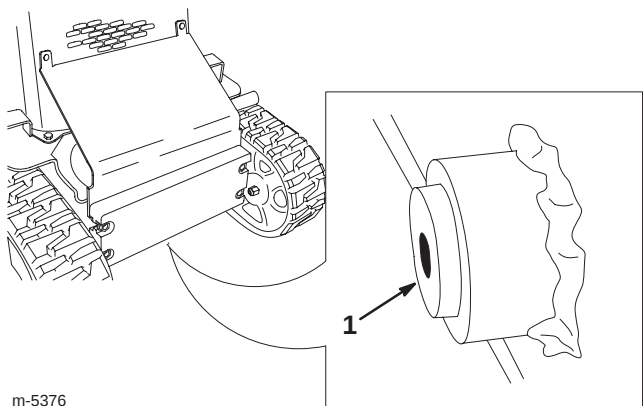

Figure 47
6. Place a large drain pan (capable of holding 15 US gallons) under the drain plug on the front of the traction unit (Fig. 47).
7. Remove the drain plug and allow the oil to drain into the pan (Fig. 47).